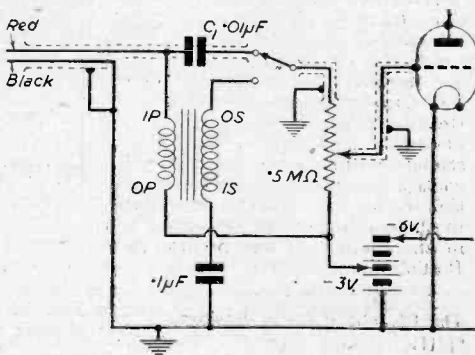

Fig. 1.—The newly arranged input circuit.
The amplifier is now ready for rewiring. The new input circuit is shown in Fig. 1. Two inputs have been provided for (1), a carbon microphone, (2) a pick-up, output of a one valver, etc.